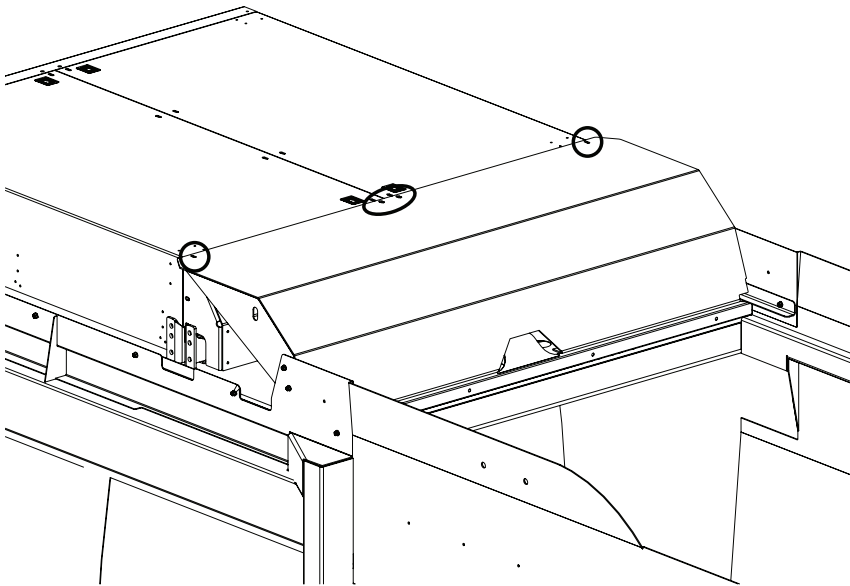

Figure 4
7. Install the four bolts (P/N 1243637) across the top of the refuse deflector weldment (location shown in Figure 4) to secure the weldment to the CNG cover. Tighten the bolts enough to hold the deflector in place, but do not over-tighten. The bolts are being installed at this time to keep the deflector aligned during the next few steps.
17. Reinstall four bolts (P/N 1243637) across the top of the refuse deflector weldment to secure the weldment to the CNG cover (location shown in Figure 4).